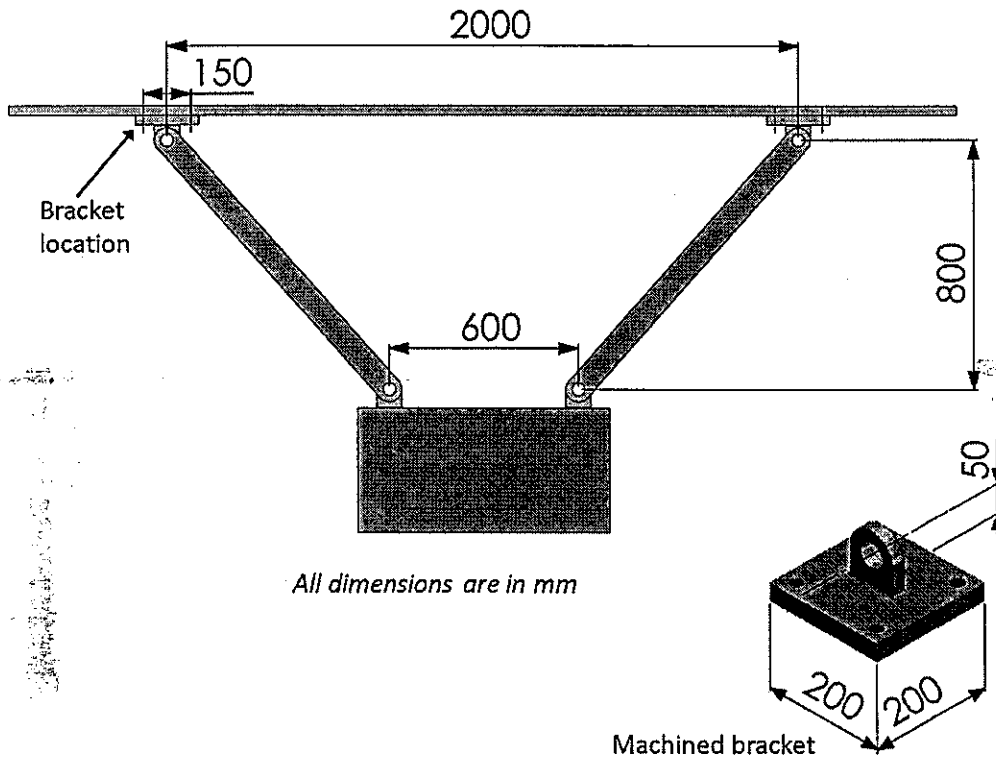

Figure 2
- (b) There are two identical machined brackets in Figure 2 (not drawn to scale) fastened to the ceiling spaced at 2m apart to support a constant load of 400kg with a safety factor of 3. A total of four bolts are needed to secure each brackets onto the ceiling. The isometric drawing of the machined bracket is shown in the bottom right hand.